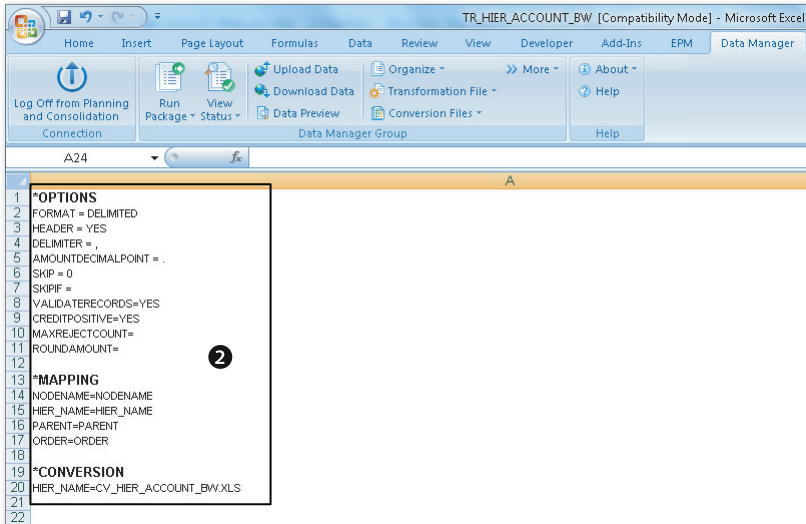

Figure 4.43 Loading Hierarchy Data from an InfoObject into a Dimension—Part B
4. Create a transformation file. The Data Manager package for loading the hierarchy data from SAP NetWeaver BW will use the *OPTIONS, *MAPPINGS, and *CONVERSION commands specified in the transformation file shown in Figure 4.43 (2). The commands specified in the *MAPPING section are used to transform node, parent, and hierarchy names loaded from the SAP NetWeaver BW